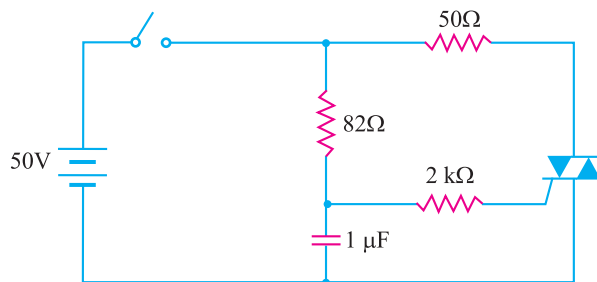

Fig. 21.16
**Example 21.4.** In Fig. 21.16, the switch is closed. If the triac has fired, what is the current through  $50\Omega$  resistor when (i) triac is ideal (ii) triac has a drop of  $1V$ ?